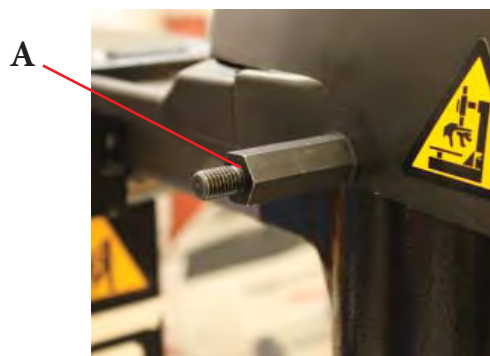

Figure 2.3-1
2. Install onto the machine. The pin "A" must be securely assembled by screwing it in the hole (Figure 2.3-1).